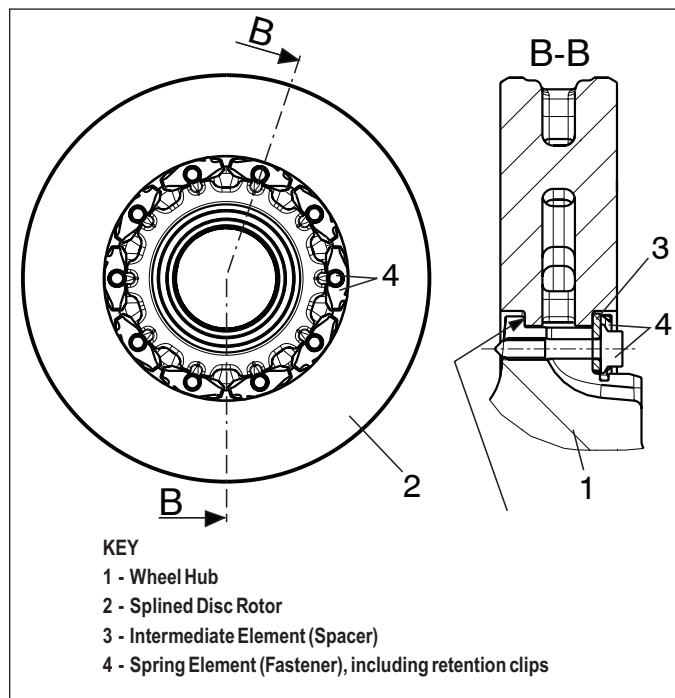
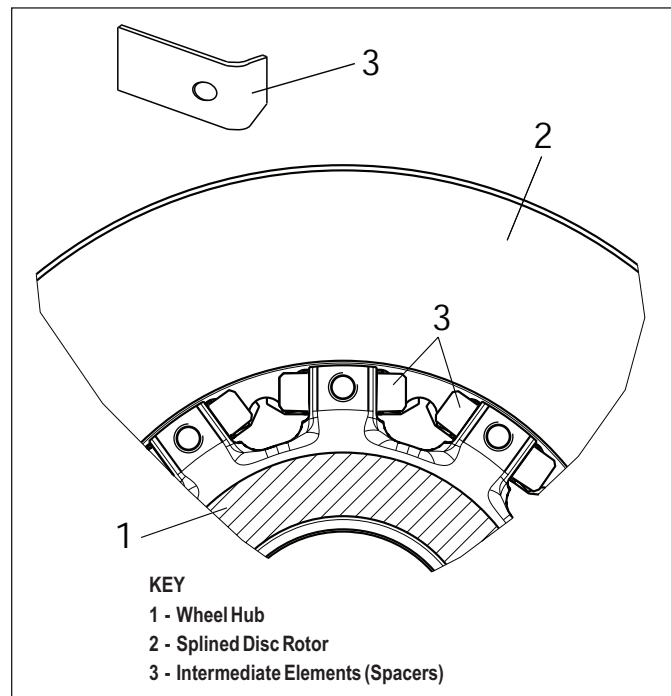

FIGURE 87 - ROTOR WITH CROSS-SECTION VIEW
FIGURE 89 - INTERMEDIATE ELEMENT (SPACER) INSTALLATION
5.7.10 See Figures 87 through 91. Place the rotor into position on the hub. Install the new intermediate elements (spacers) as shown in Figure 89. With all the intermediate elements (spacers) correctly inserted into position, verify that the gap between the intermediate elements (spacers) and the wheel hub does not exceed 0.004 in (0.1 mm). If a gap is found that exceeds this maximum value, verify the installation of new intermediate elements (spacers). Replace the wheel hub if the excess gap cannot